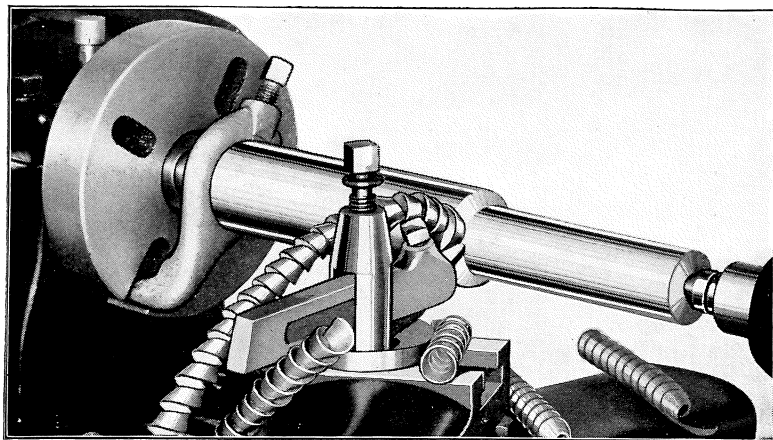

Fig. 1. A bar of steel being machined in the lathe with a correctly ground cutter bit inserted in a lathe tool holder.
**A—Left Hand Turning Tool**—This tool is ground for machining work when fed from left to right, as indicated by Fig. 1, Plate I, at left. The cutting edge is on the right side of the tool and the top of the tool slopes down away from the cutting edge. The right side and front of the tool are ground with sufficient clearance to permit the cutting edge to advance when the feed is engaged without the heel of the tool rubbing against the work.